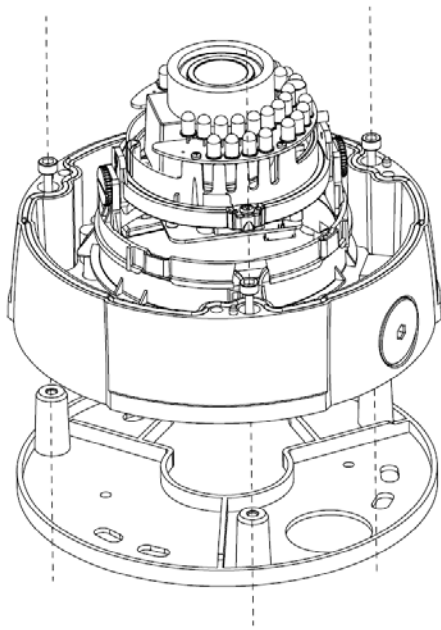

Figure 2.3.3
Step 1: Use the inner hexagonal wrench (provided) to loosen the three inner hexagon screws in the dome cover and then open the cover. Figure 2.3.3